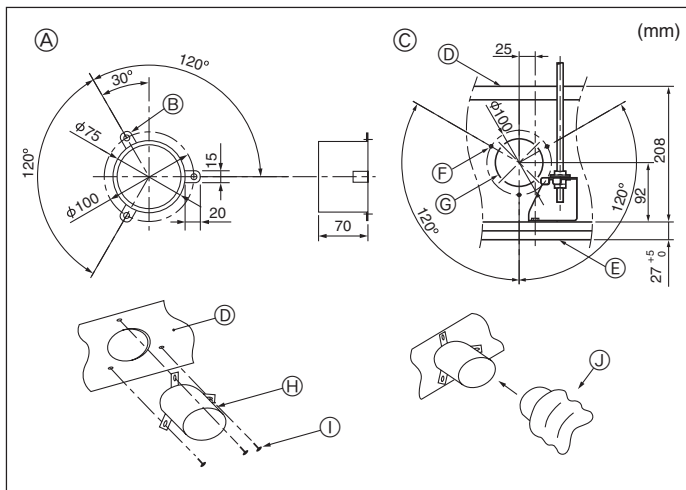

Fig. 4-3
- Min. 500 mm (Entire periphery) If setting the maintenance space for ⑧, be sure to leave a minimum of 700 mm.
4.3. Installation of duct (in case of fresh air intake) (Fig. 4-3)